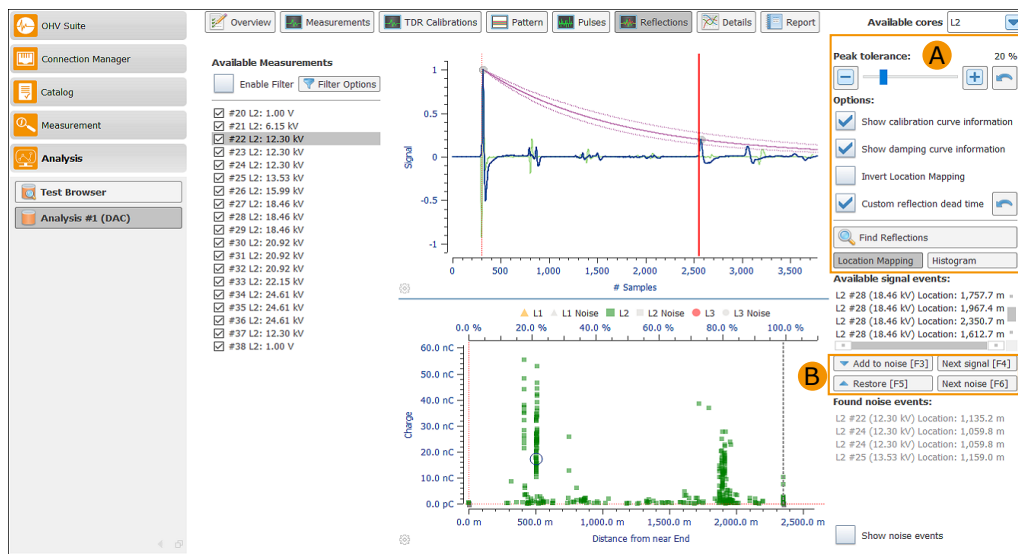

Figure 8.17: Reflections Overview (Advanced analysis mode)
If the advanced mode has been selected inside analysis configuration (see Section 8.1.4), additional options for the reflection search are available, which are depicted in Figure 8.17 (A). Use the *Peak tolerance* slider to set the sensitivity for the reflection search. A higher value will find more
In Figure 8.17 several buttons are depicted with  can be used to navigate through the list of available signal event and noise events.